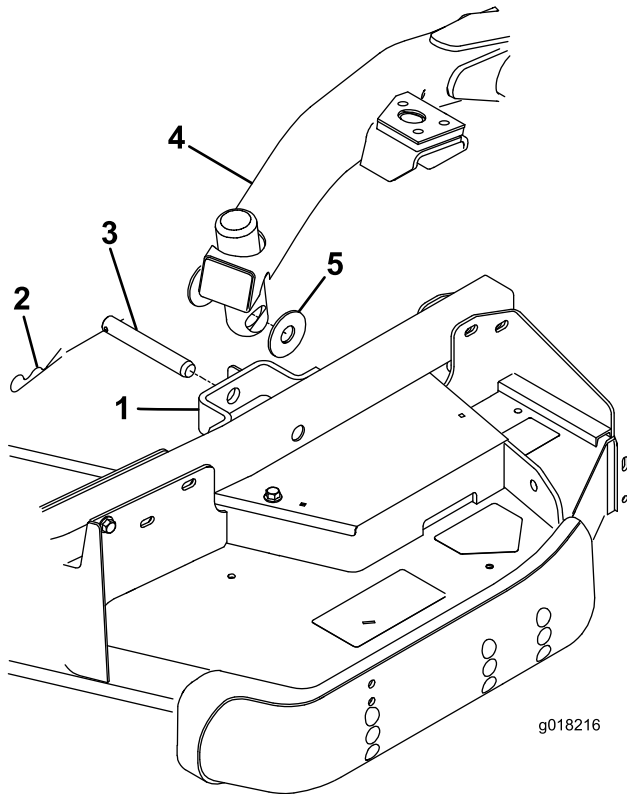

Figure 26
line up with the holes in the castor arm bracket and the height of cut rod can be inserted into the lift arm pads (Figure 26).
- Secure the lift arm to the castor arm with (2) thrust washers, a clevis pin and a hair pin cotter. Position the thrust washers between the lift arm and the castor arm bracket (Figure 26). Insert end of cotter pin into the slot in the castor arm tab to retain cotter pin.